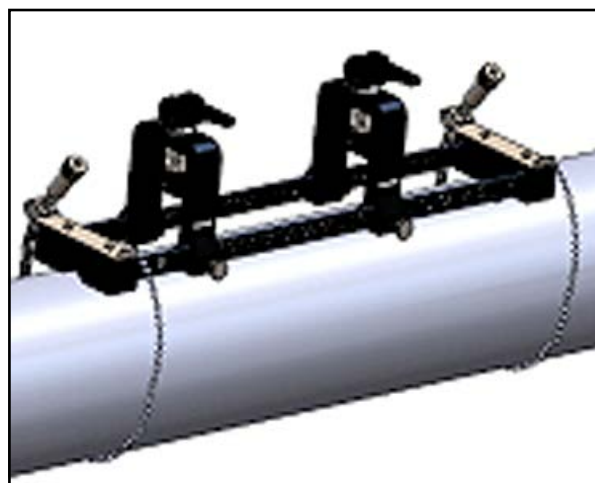

Figure 14: Fixture With Chains Installed
7. Repeat the previous steps to install the chain at the opposite end of the clamp-on fixture (see Figure 14). The clamp-on fixture should be firmly mounted to the pipe, but it should still be loose enough to allow final alignment.